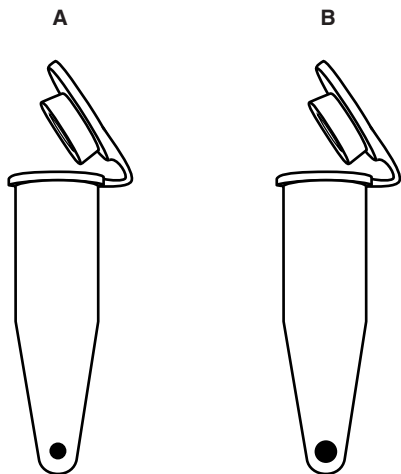

Fig. 2.1. Pellet sizes.
5. Compare the pellet size of your samples with the pellet sizes in Figure 2.1. A pellet size between the size range in Figure 2.1 will give a sufficient number of cells for sample preparation. It is advisable to keep the pellet size within the size ranges provided below.
- a. If the pellet is too small, add more of the overnight culture to the tube. Pellet the cells and aspirate off supernatant with a pipet. Repeat this step until the pellet size is between A and B in Figure 2.1.
- b. If the pellet is too large, resuspend the pellet in 50 μl of Cell Suspension buffer. Pipet off some of the resuspended cells. Pellet the cells and aspirate off supernatant with a pipet. Repeat this step until the pellet size is between A and B in Figure 2.1.
1. For organisms that do not grow well in broth media, fresh growth of a pure isolate from solid media is suitable. Using a sterile inoculating loop, scrape up an amount of cell mass between the size of the pellets in tubes A and B shown in Figure 2.1, and resuspend in a microcentrifuge tube containing 1 ml sterile saline or broth media. Avoid scraping up the solid media. Prepare one tube per sample.
3. Compare the pellet size of your samples with the pellet sizes in Figure 2.1. A pellet size between the size range in Figure 2.1 will give sufficient number of cells for sample preparation. It is advisable to keep the pellet size within the size ranges in Figure 2.1.